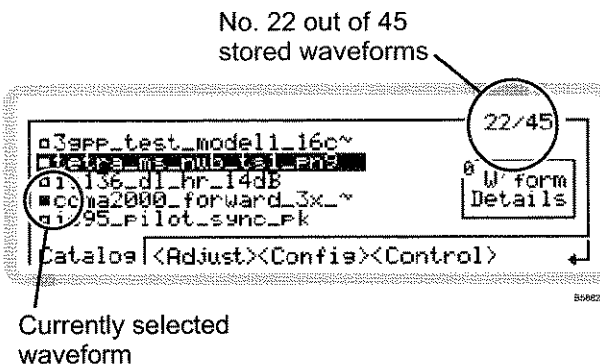
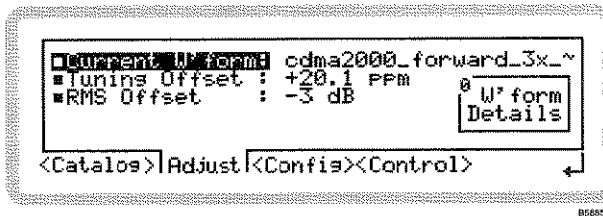
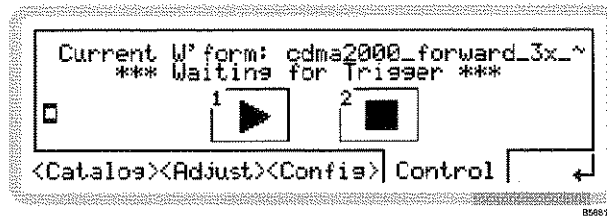

Fig. 3-29 ARB catalog
Fig. 3-30 ARB adjust
Fig. 3-32 ARB control
- 2 Press **SIG GEN** to show the main screen, and touch the **IQ** soft box to select the function. Touch **W form** and press **W form** to view the ARB catalog menu (Fig. 3-29).
From the ARB catalog menu of Fig. 3-29, touch <Adjust> or press **[TAB]** to display the ARB adjust screen (Fig. 3-30).
From the ARB catalog menu of Fig. 3-29, touch <Config> or press <TAB> to display the ARB configuration screen (Fig. 3-31).
From the ARB catalog menu of Fig. 3-29, touch <Control> or press **<TAB>** to display the control screen (Fig. 3-32).